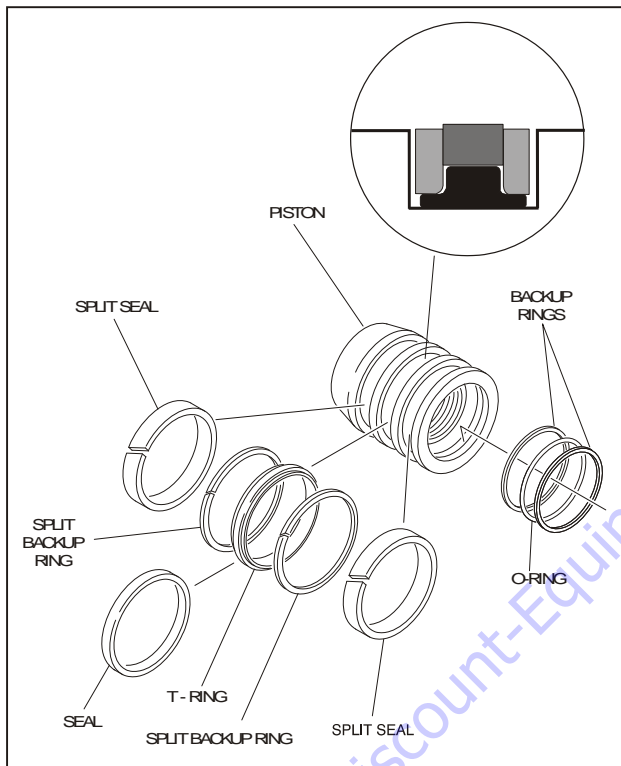

Figure 8-10. Piston Seal Kit Installation
NOTE: The backup rings for the solid seal have a radius on one side. This side faces the solid seal. (See magnified insert in Figure 8-10.) The split of seals and backup rings are to be positioned so as not to be in alignment with each other.
16. Place new guide locks and seals in the applicable outside diameter grooves of the cylinder piston. (See Figure 8-10.)